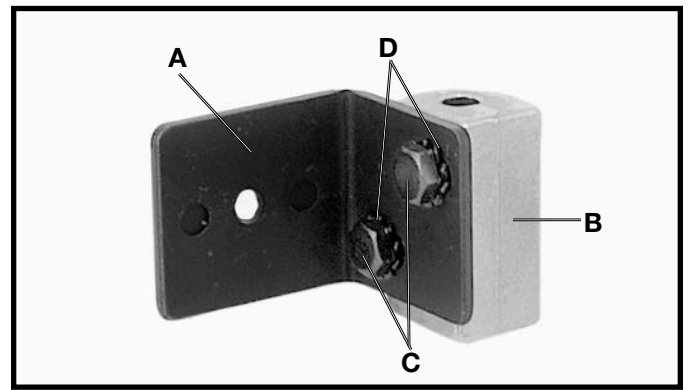
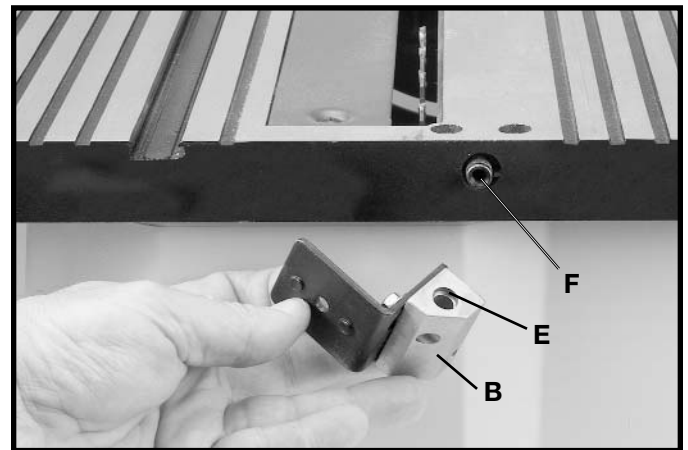
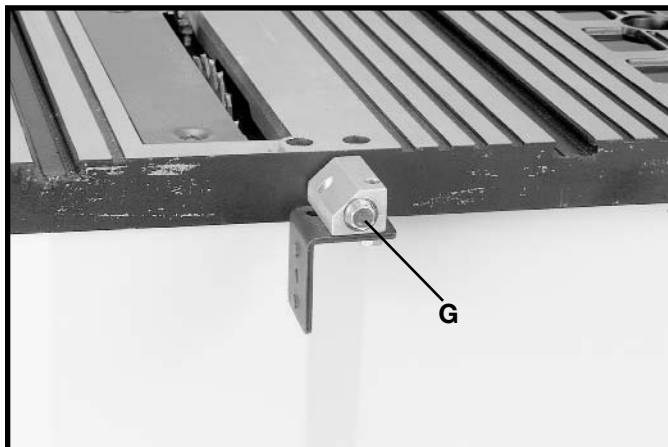

Fig. 9
Fig. 11
Fig. 12
4. Fasten the splitter support bracket (A) Fig. 9, to splitter bracket (B) using two 1/4-20x1 1/2" hex head screws (C), and two 1/4" external tooth lockwashers (D) as shown. **NOTE: Do not completely tighten screws (C) at this time.**
6. Position recessed end (E) Fig. 11, of splitter bracket (B) against end of pivot rod (F) and fasten in place using the 1/4-20x2 1/2" hex head screw (G) Fig. 12, 1/4" internal tooth lockwasher, 1/4" flat washer and 1/4" external tooth lockwasher which were assembled to screw (G) in **STEP 5. NOTE: Do not completely tighten screws (C) Fig. 9 at this time.**